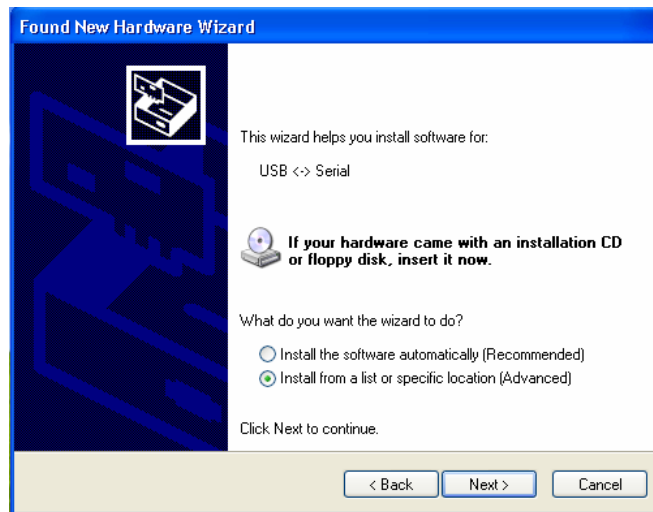

Figure 17: Found New Hardware Wizard Dialog Box
2.	Plug the Device into the USB port on the PC to bring up the “found new hardware” wizard dialog box, shown in Figure 17.
3.	Select RADIO button, “No, not this time” as shown in Figure 17.